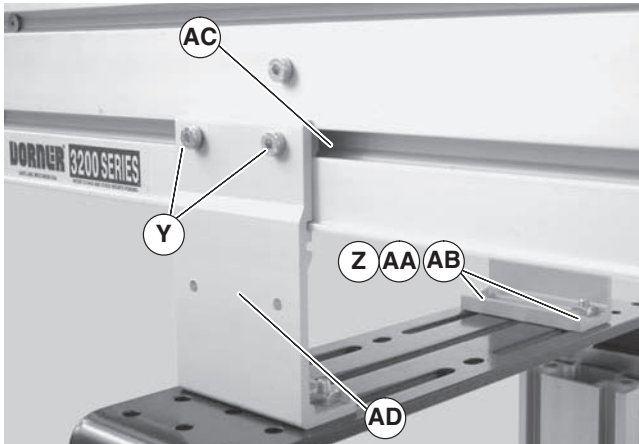

Figure 12
3. Insert T-bars (Figure 10, item AC) & (Figure 11, item AC) into conveyor side slots (Figure 12, item AC). Fasten brackets (Figure 12, item AD) to conveyor with mounting screws (Y).
4. Fasten brackets to support stand with mounting screws (Figure 12, item Z), washers (AA) and nuts (AB).
5. Tighten screws (Figure 12, item Y & Z) to 60 in-lb (7 Nm).